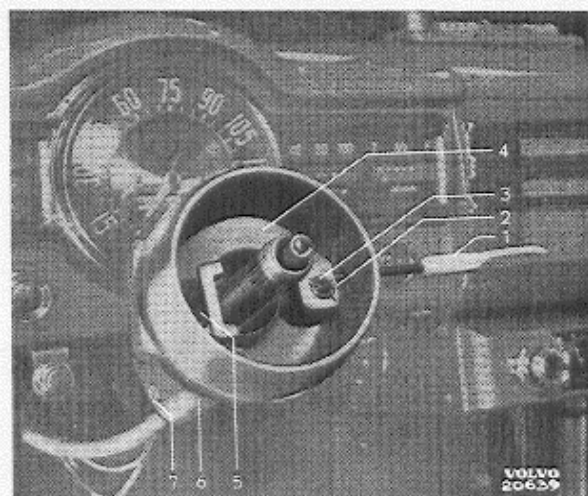

Fig. 27.
2. Screw out the operating arm (1, fig. 27) from the lever (4). Remove the cotter pin (2) and washer (3) and lift the lever and rubber stop (5) out of the housing (6).
- Loosen the retainer screw (7, fig. 27) right out and slide the housing off the steering column. Remove switch and cable.